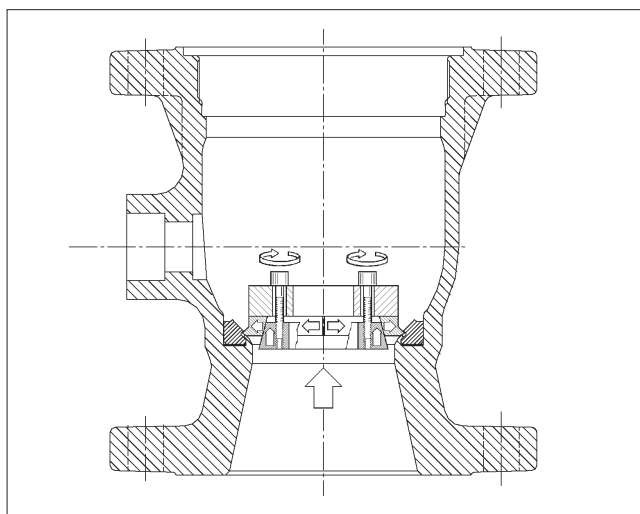

Fig. 19 Removing a locked seat
- Unscrew the insert (2) using a special tool. See Section 8 'Tools'.
- Remove the gaskets (65, 135), seat (7) and ball (3). The ball should be in the closed position for removal.
- Remove the key (10).
- Unfasten the gland nuts (18). Remove the disc spring sets (150), studs (14), retainer plates (42), the gland (9) and the packing rings (69).
- Remove the pin (50) and then the spline driver.
- Remove the stem (5) by pulling it outwards. The thrust bearings (70) will be detached around the stem.
- Remove the locked seat (7) using an outpulling tool, see Figure 19. See also Section 8 'Tools'.